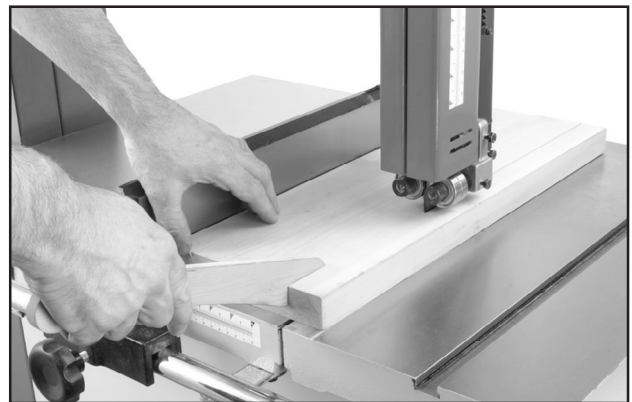

Figure 48. Example of typical ripping operation with a push stick.
3. After all safety precautions have been met, turn the bandsaw **ON**. Slowly feed the workpiece into the blade and continue with the cut until the blade is completely through the workpiece. **Figure 48** shows a typical ripping operation. **Note:** *If you are cutting narrow pieces, use a push stick to protect your fingers.*